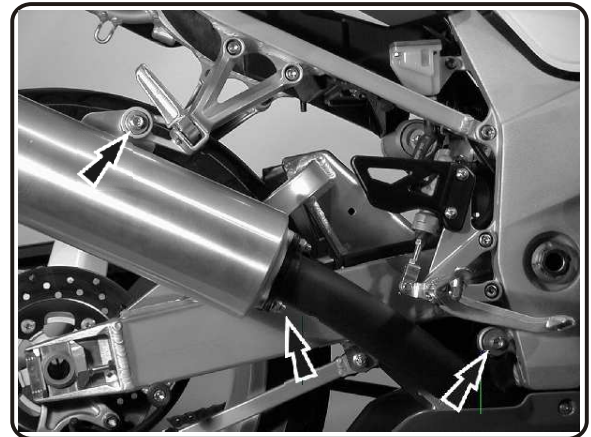

Fig. 1
- 1 Remove stock muffler and gasket. (See Fig.1)
- 2 Loosen tail-pipe bolt at chassis mount (See Fig.1)